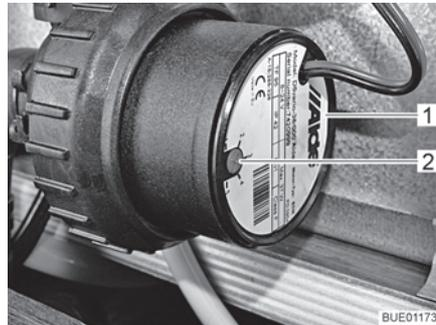

Fig. 158 Speed reduction
The rotational speed of the circulating pump can be set with the control knob (Fig. 158,2). At a lower rotary speed, the operating sounds of the pump are quieter.
The control knob is located on the circulating pump (Fig. 158,1).
- Turn the control knob (Fig. 158,2) in an anticlockwise direction. The output is reduced.